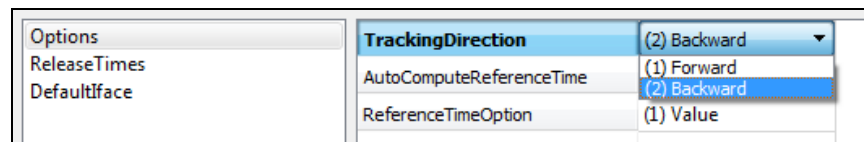

Figure 4 Selecting the tracking direction
3. Select “(2) Backward” from the *TrackingDirection* drop-down (Figure 4).